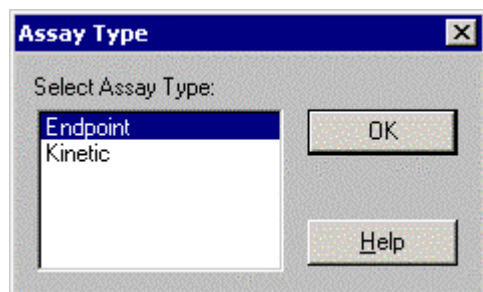

Figure 4-2 Assay Type Dialog Box
**New Assay** accesses the *Assay Type* dialog box (Figure 4-2), which is used to select the desired type of assay.